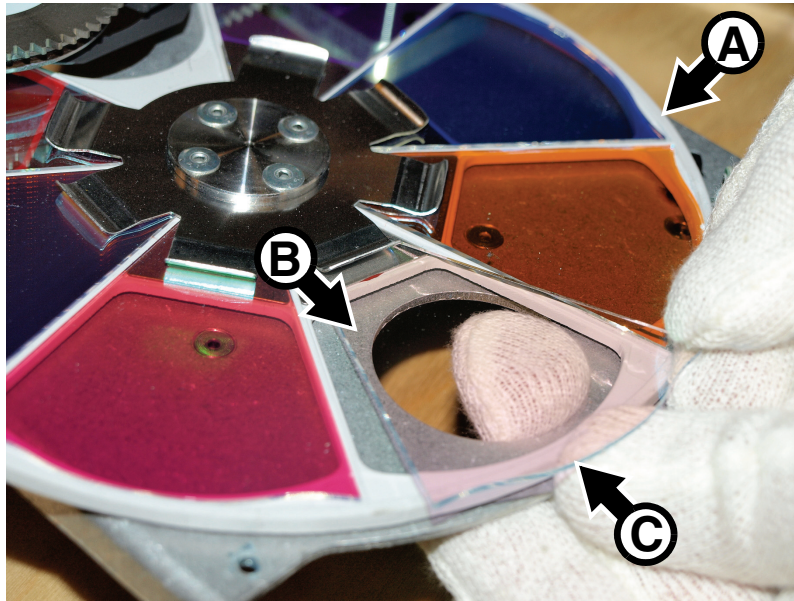

**Figure 23: Gobo reinstatement**
8. See Figure 23. Push the goboholder back into its clip so that the jaws of the clip engage in the groove around the goboholder and the magnet (arrowed) points in towards the center of the gobo wheel. Rotate the goboholder with a finger to check that it is correctly held in the clip and that the goboholder teeth mesh correctly in the teeth of the blue actuation cog.